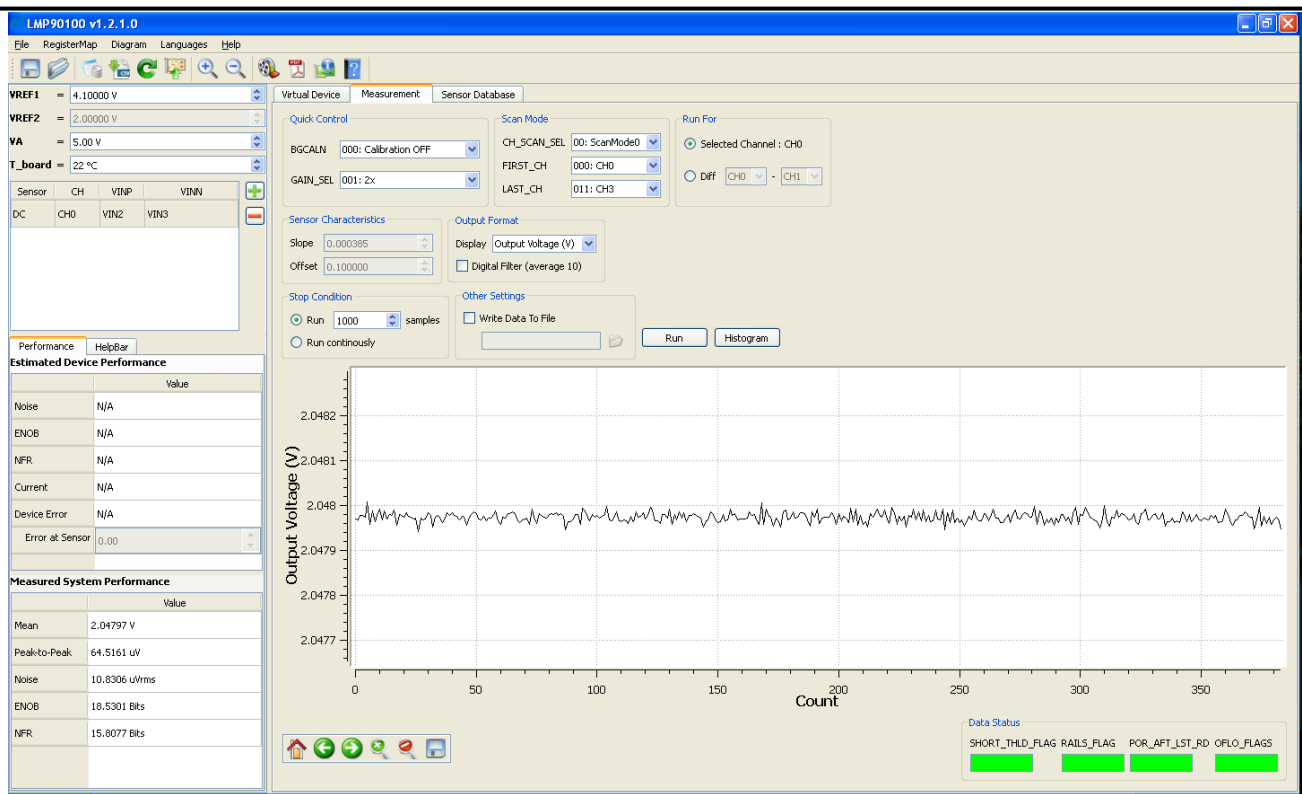

Figure 7 - Results for Example #1 - DC Reading
2. Under the **“Output Format”** field, select Display as **“Output Voltage (V)”**
4. Click on the **“Run”** button to view the output voltage results. A reading of approximately $\frac{1}{2}(V_{REF1})$ should be plotted as seen in Figure 7.